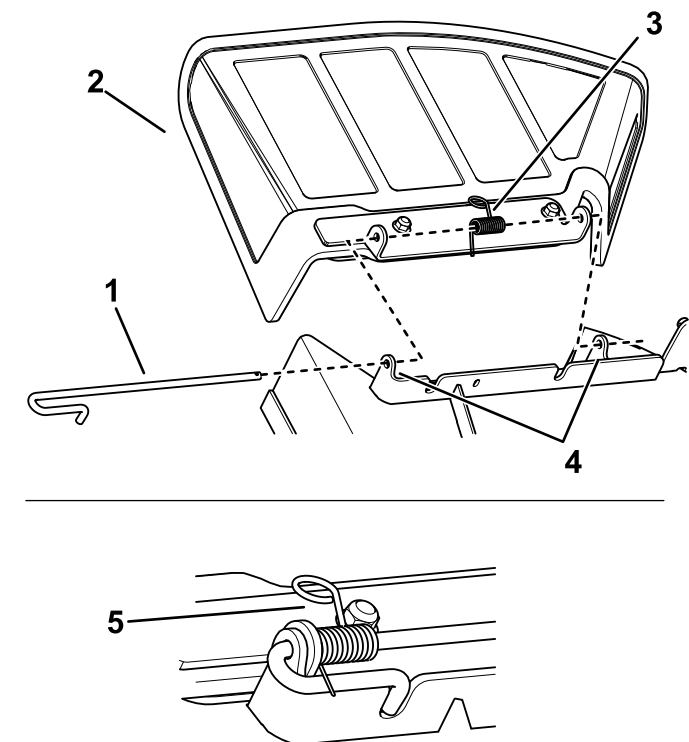

Figure 76
3. Position the new discharge deflector with the bracket ends between the welded brackets on the deck and install the rod and spring as shown in Figure 76.
1. Disengage the spring and slide the rod out of the welded deck brackets, spring, and discharge deflector (Figure 76).
4. Place the end of the rod in the notch of the bracket (Figure 76).